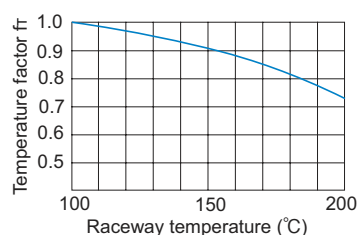

Fig.1 Temperature Factor ( $f_t$ )
- $f_T$  : Temperature factor (see Fig.1 on A-627)
If the temperature of the environment surrounding the operating Flat Roller exceeds 100 °C, take into account the adverse effect of the high temperature and multiply the basic load ratings by the temperature factor indicated in Fig.1.